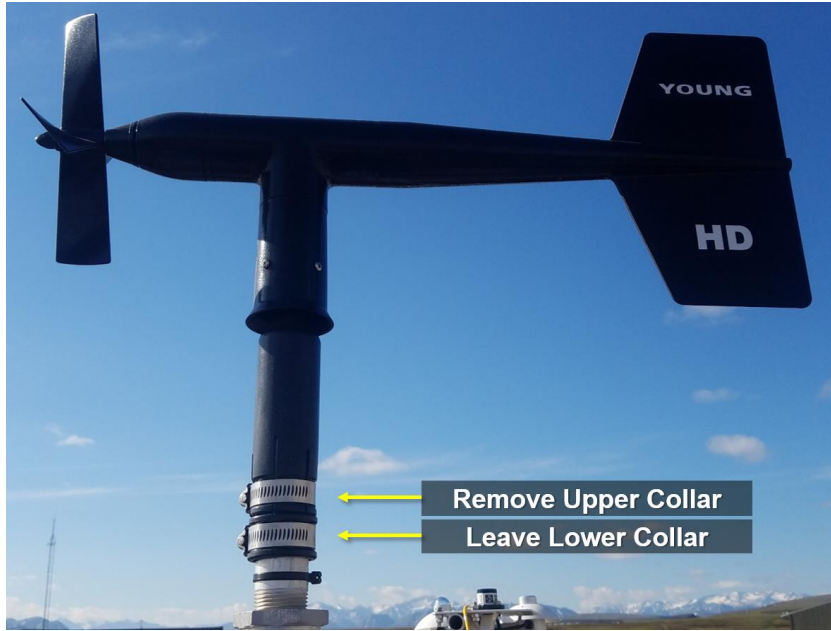

Figure 30. RM Young Wind Monitor (2D Wind) Upper and Lower Collar on Met Mast
- b. Leave the lower location collar (lower stainless steel band clamp). The lower collar maintains the orientation for redeploying the RM Young on the MET Mast (similar to the bump stop) without loss of wind direction reference. See Figure 30 for upper and lower collar location on Met Mast.